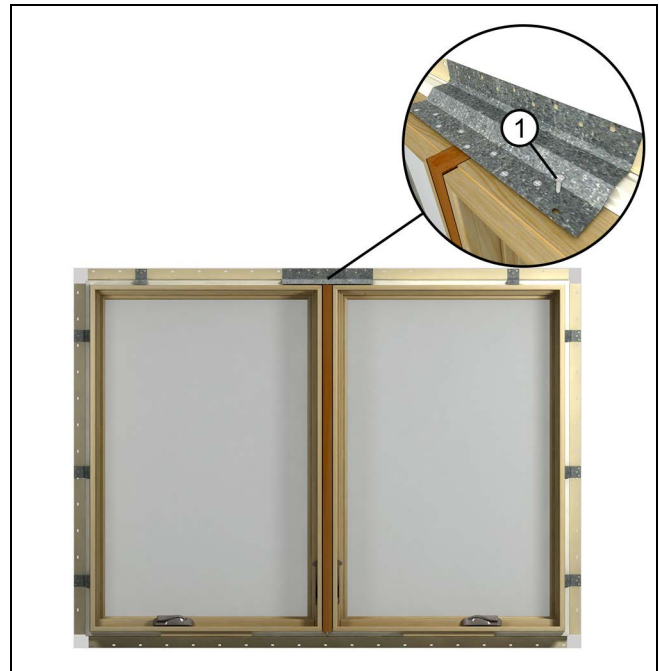

Figure 2
2. Center mull clip over mullion. Attach to unit and mull post with #7 x 5/8" wood screw through every hole in mull clip. Attach nailing fin 4" (102) from all corners and a maximum of 7" (178) apart around the rest of the unit perimeter. See Installing the Window or Door on page 4 for more details on how to fasten the unit in the opening with the various installation clips. See Figure 2.